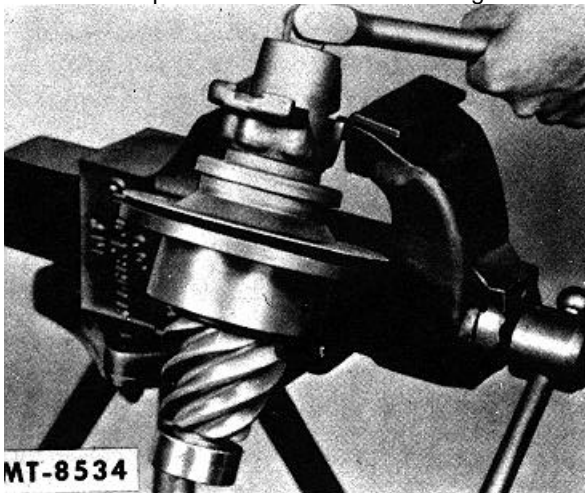
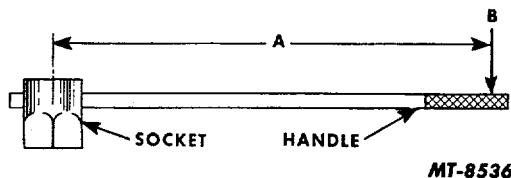

Fig. 17 Pinion and Cage Disassembly
Fig. 20 Wrench Torque Chart and Diagram
1. If the companion flange or yoke has not previously been removed from pinion, mount the pinion and cage assembly in a vise. Remove the cotter pin and take off pinion and nut as shown in Fig. 17.
Temporarily bolt up the pinion, cage and flange assembly, less oil seal and retainer, and clamp the assembly in a vise so as to hold the companion flange, Fig. 17. Pinion end nut should then be drawn tight to the torque shown in specifications. The applying of correct torque to the various pinion end nuts, etc. usually calls for torque limits beyond the capacity of the ordinary torque wrench. Where this is the case, the chart listed below may be used as a guide for obtaining the torque required. Fig. 20 illustrates the length of the wrench handle (A) and the effort that must be applied at (B) when tightening to secure the necessary torque.